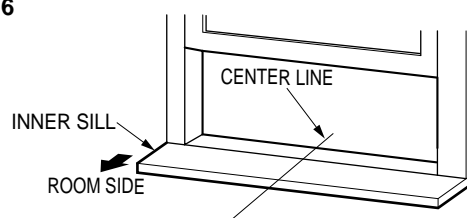

Figure 7
- b. The bracket helps to hold unit securely in place. Be sure to place bracket edge flush against back of inner sill. See Figure. 7.